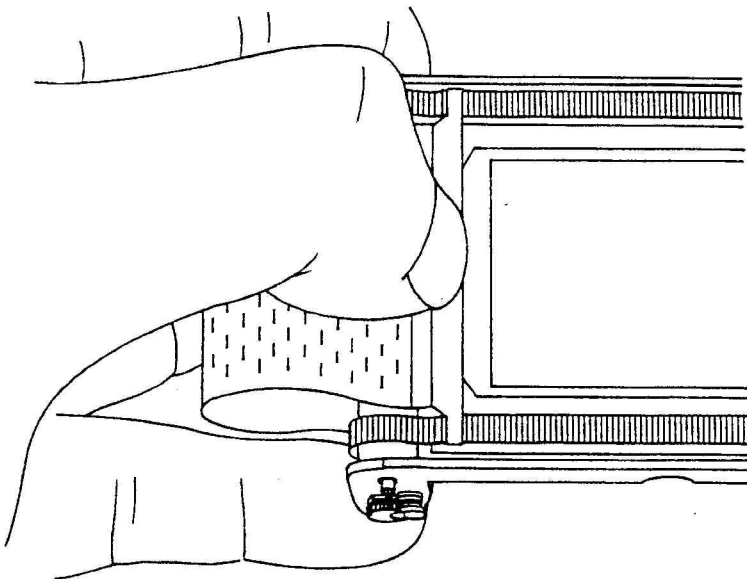
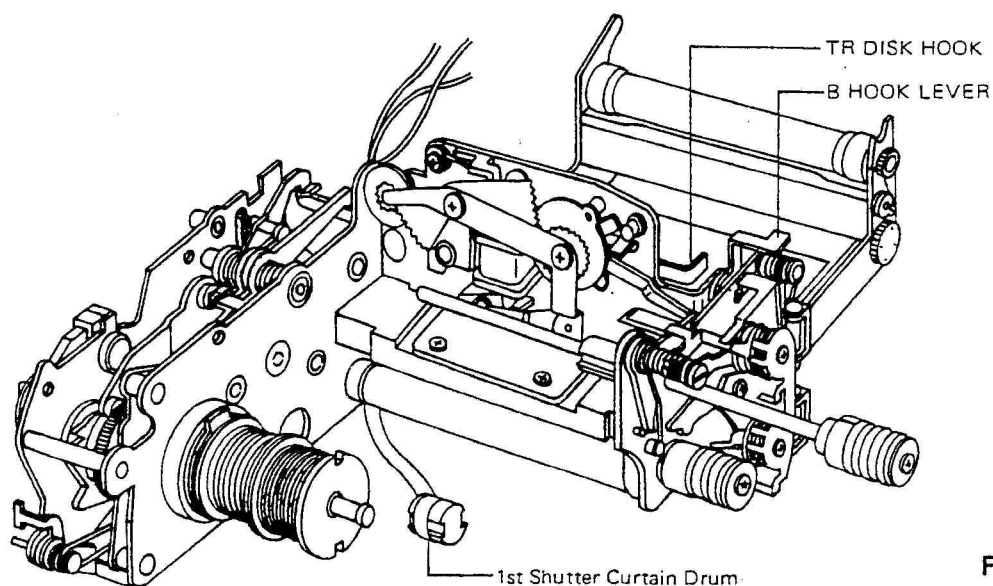

Fig. 27
Fig. 28
When fixing the 1st Shutter Curtain Drum to the 1st Shutter Curtain Shaft with two of the Curtain Adjusting Plates (141359x2) and Curtain Adjusting Plate S.S. (141360x2) refer to the (fig. 27)&(fig. 28)
- b) Release the 1st Shutter Curtain by pushing the TR DISK HOOK. (fig. 28)
- d) Release the 2nd Shutter Curtain by pushing the B HOOK LEVER. (fig. 28)